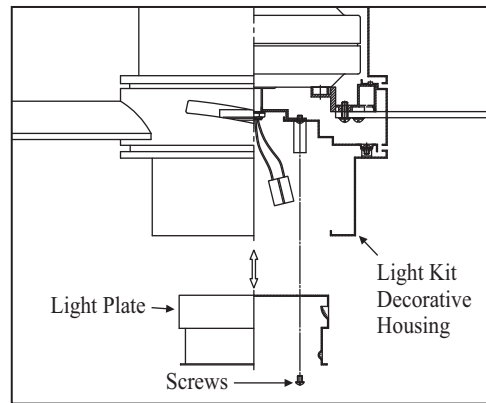

Figure 17
2. Place the key holes on the light plate over the 2 screws previously loosened, turn the light plate until it locks in place at the narrow section of the key holes. Secure by tightening the 2 screws previously loosened and the one previously removed. (Fig. 17)